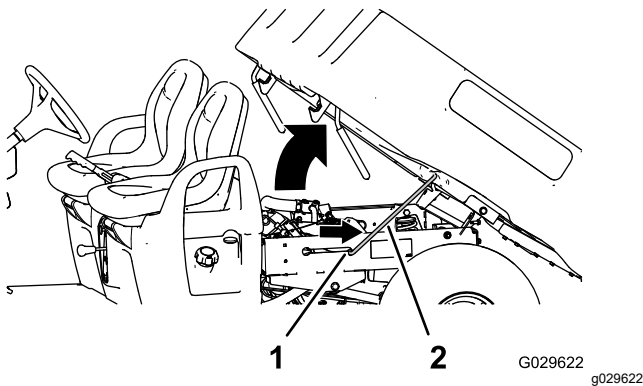

Figure 14
2. Pull the prop rod into the detent slot, securing the box (Figure 14).
2. Pull the prop rod out of the detent slot (Figure 14).
3. Lower the box until it latches securely into place (Figure 14).